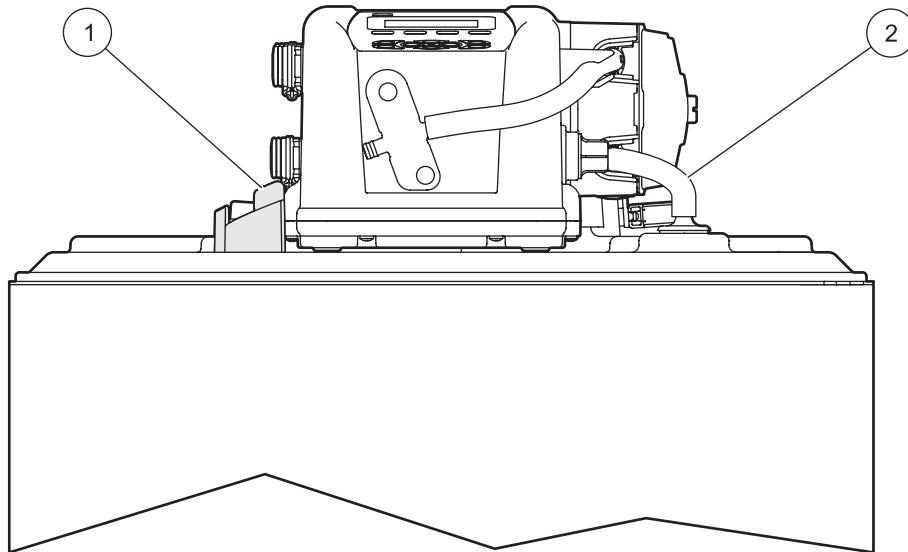

Figure 10 Tubing installation on the refrigerated sampler
1. Push the pump tube on the plastic tube fitting on the transition plate (Figure 10).
2. Push the sample line on the liquid sensor on the SD900 controller. Press the sample line into the strain relief on the transition plate (Figure 10).